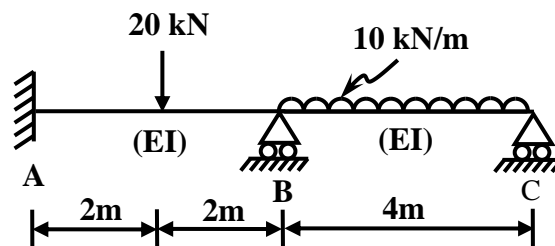

Fig.1
3. Analyze continuous beam shown in fig.1 by Slope–Deflection Method. Draw shear force and bending moment diagrams showing all salient points.
4. Analyze continuous beam shown in fig.1 by Slope–Deflection Method, if Support B settles by 10mm. Draw shear force and bending moment diagrams showing all salient points.